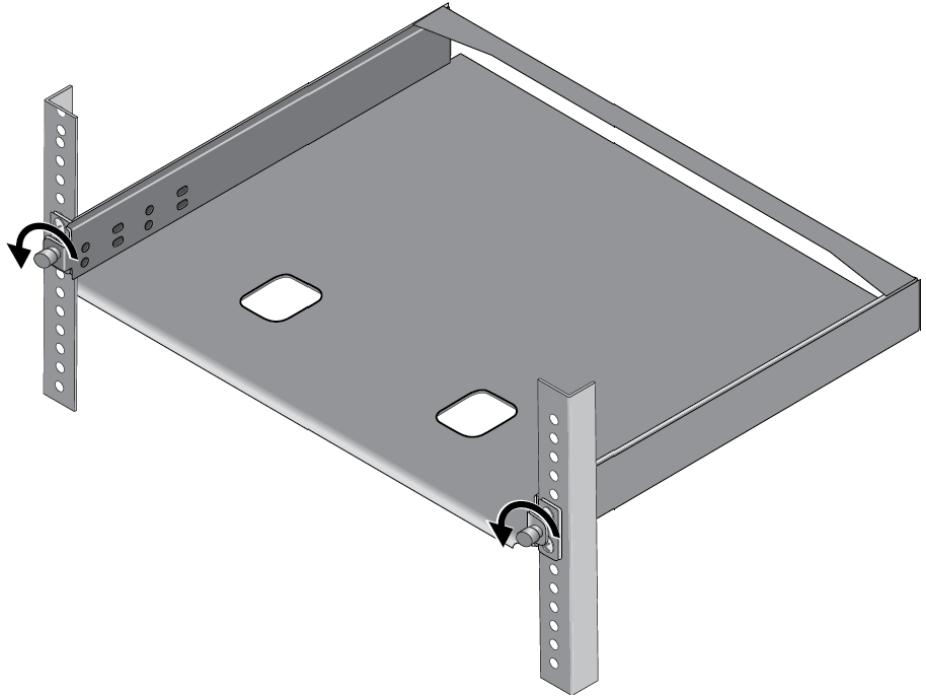

Figure 25. Loosening the Two Thumbscrews on the Front of the AT-RKMT-J15 Bracket
2. Loosen the two thumbscrews on the front of the bracket. Refer to Figure 25.